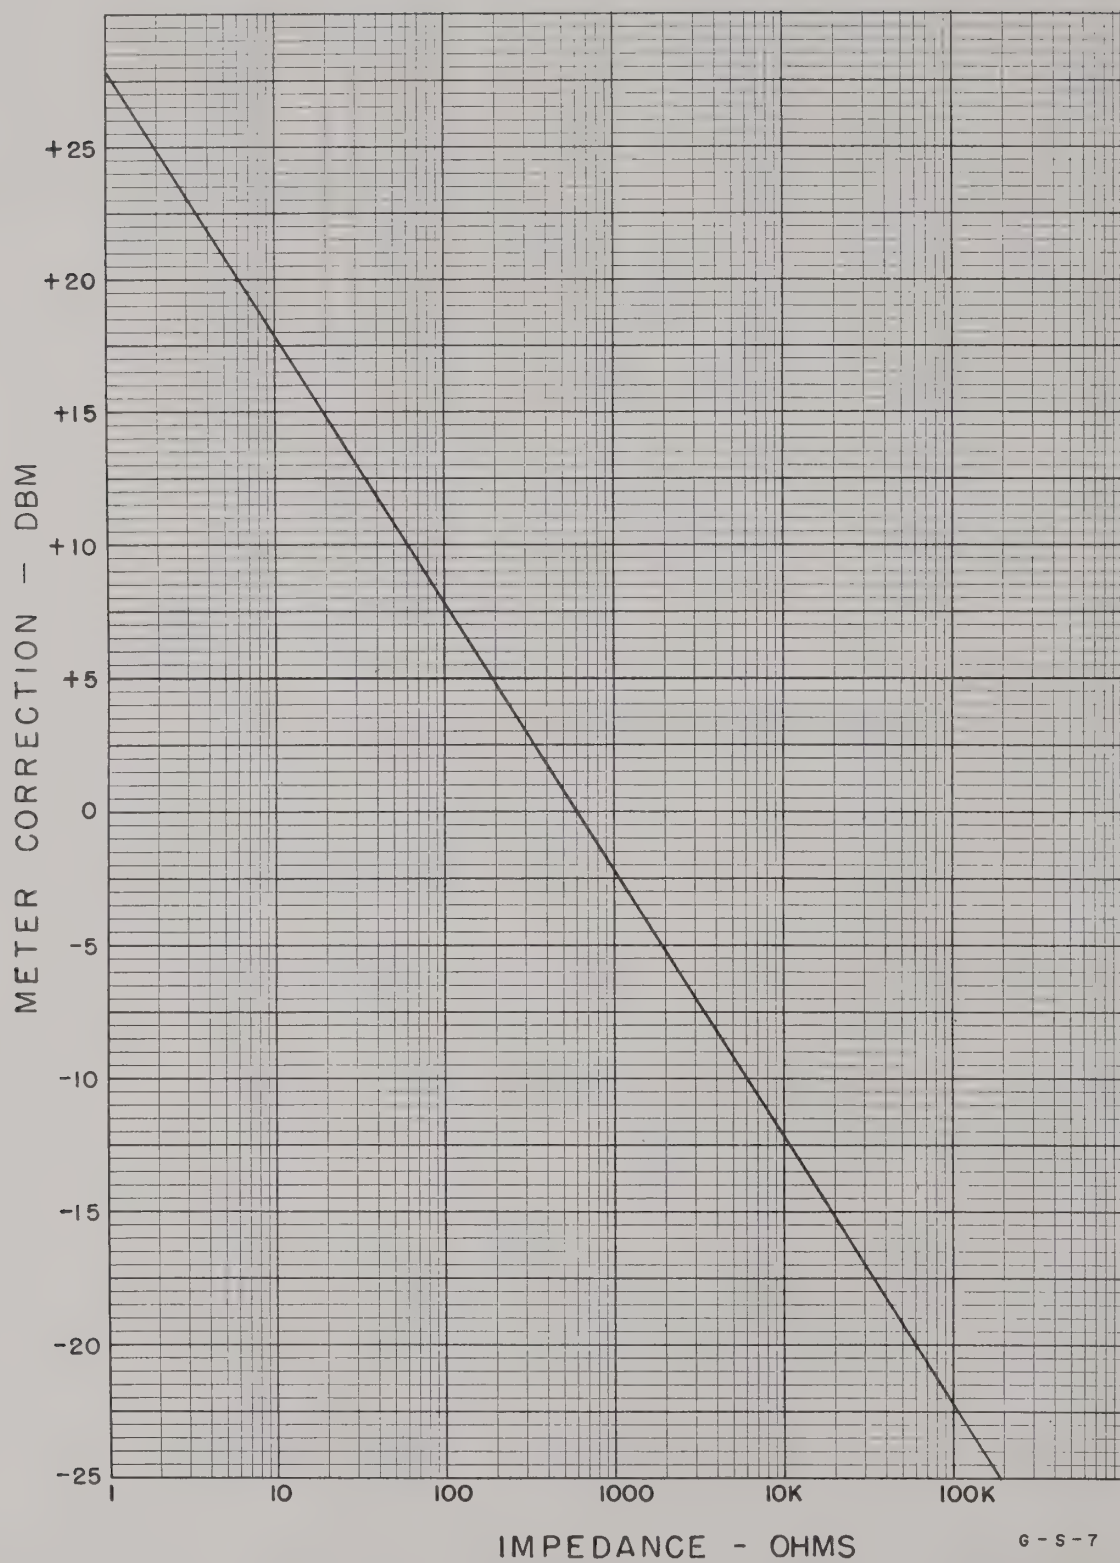

Figure 2-1. Model 400D/H/L Impedance Correction Graph
3) To obtain the level in dbm with respect to impedances other than 600 ohms, the meter correction graph shown in Figure 2-1 may be used. The level in dbm will be the algebraic sum of the level as indicated on the meter and the correction shown on the graph. For example, if the range switch is at the +30 db position, the measurement made across 90 ohms, and the indication on the DECIBELS scale +1, the level in dbm is obtained as follows: